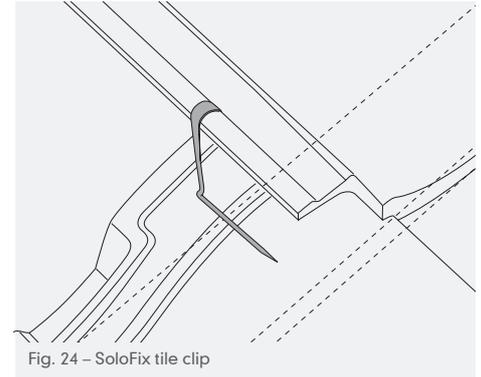

Fig. 24 – SoloFix tile clip
- 2 Tiles requiring once clipping should be fixed using a one piece SoloFix tile clip, located over the side lock of the tile (Fig. 24).